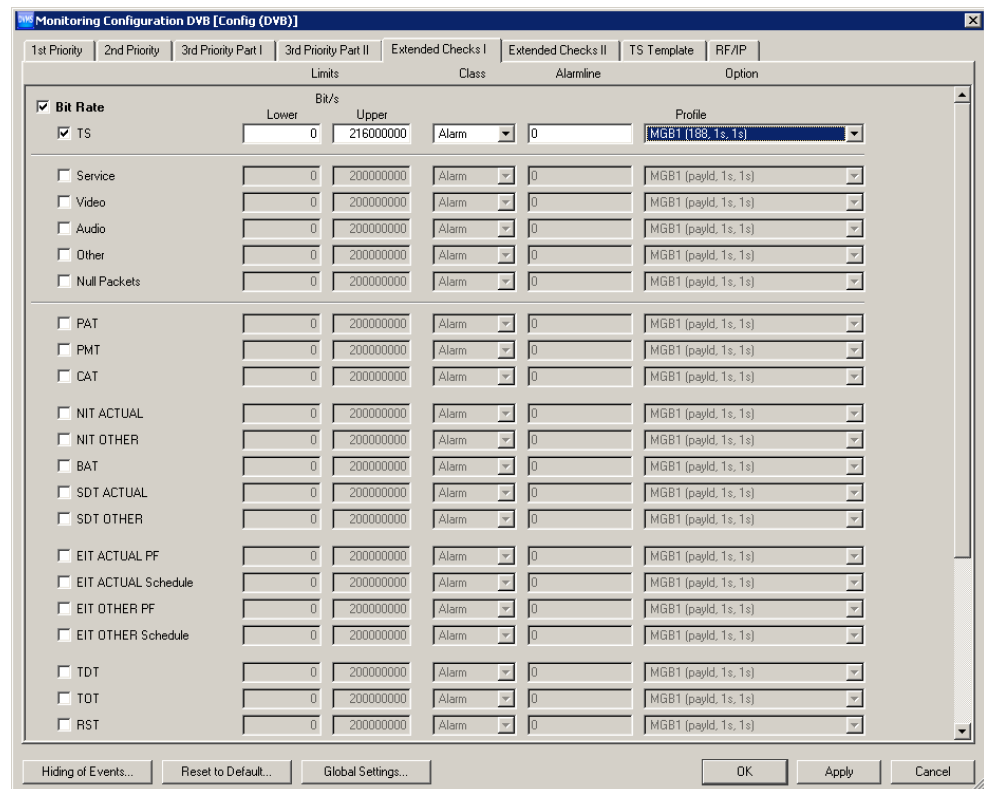

Figure 6-1: Extended Checks I tab
2. Select the "Extended Checks I" tab (see Figure 6-1).